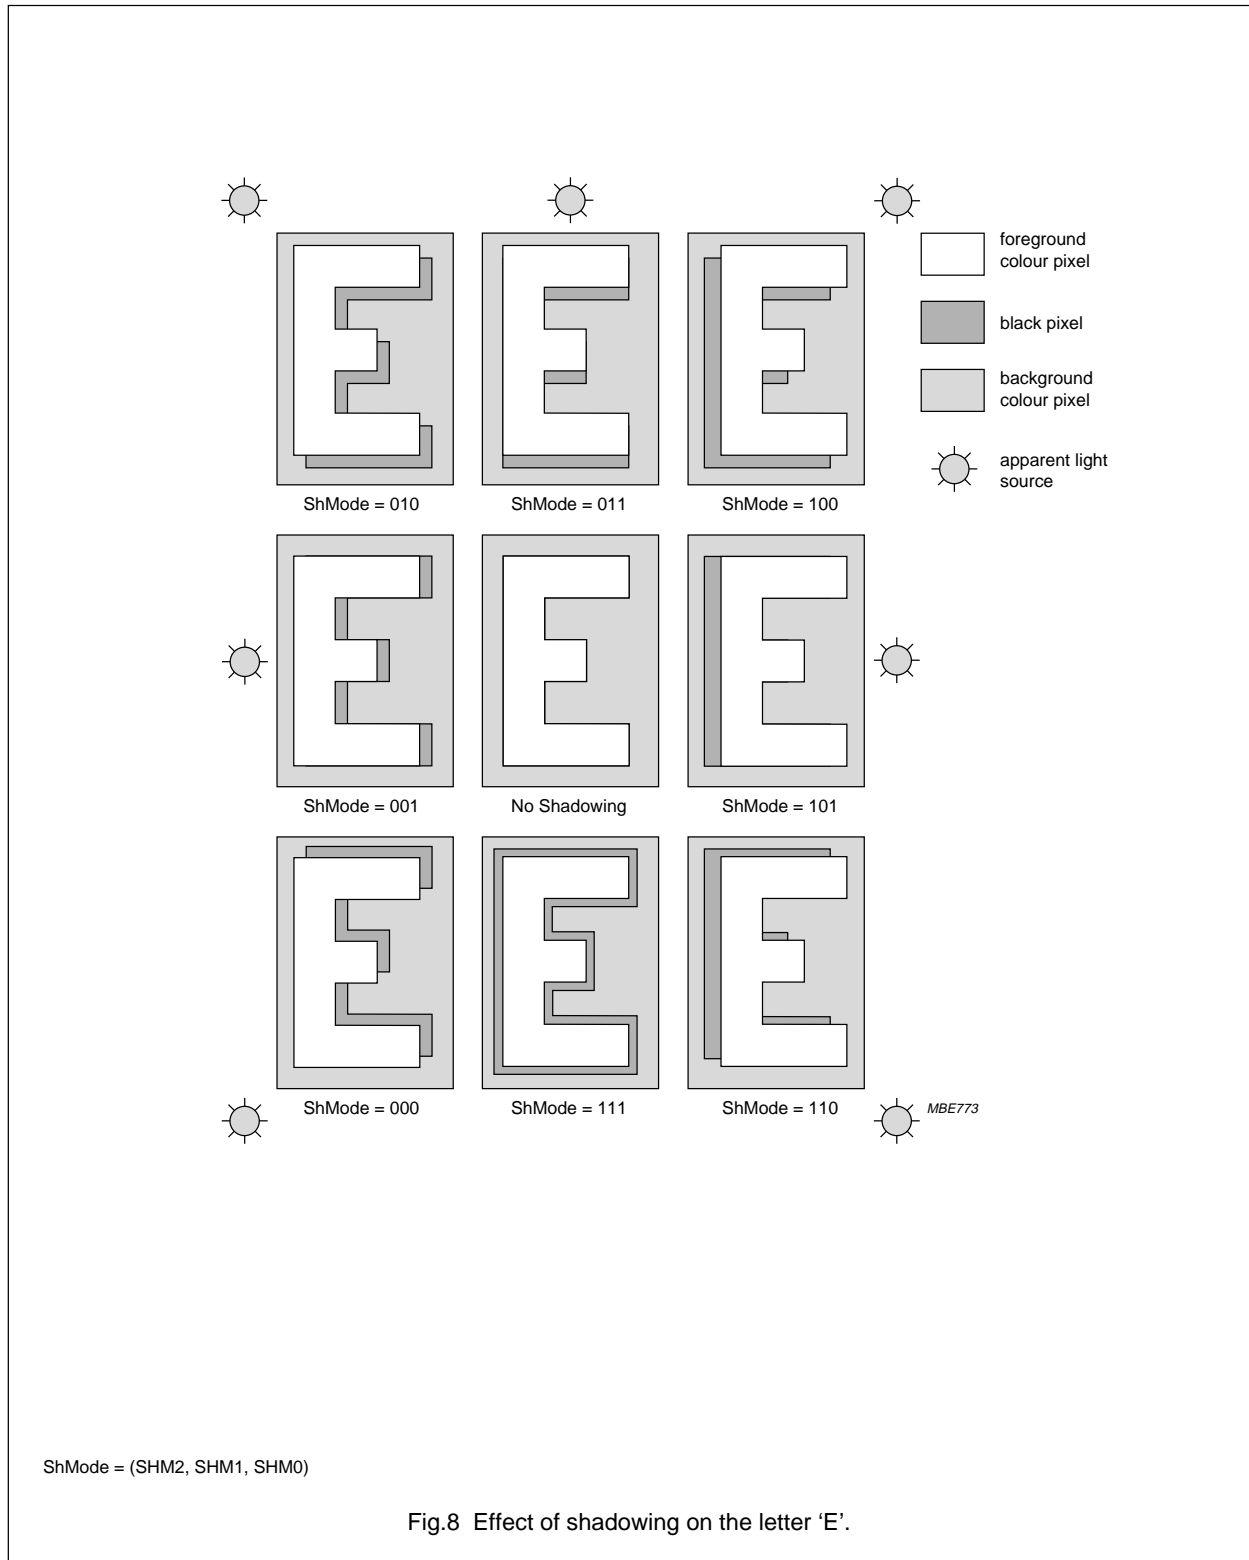

Fig.8 Effect of shadowing on the letter 'E'.
1. The mode names are based on the position of an apparent light source, ranging from the lower left (South-west) clockwise to the lower right (South-east); see Fig.8.